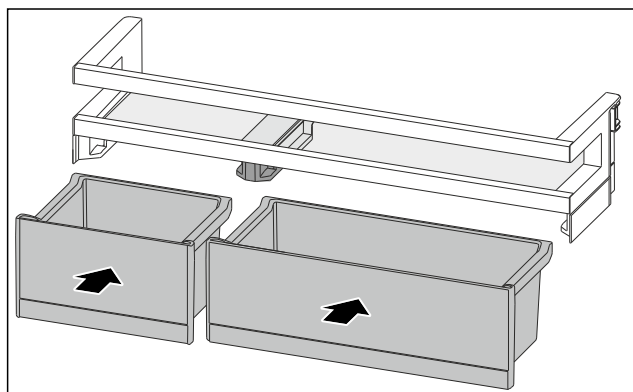

Fig. 123
- Insert the VarioBoxes in reverse order. (see Fig. 123)